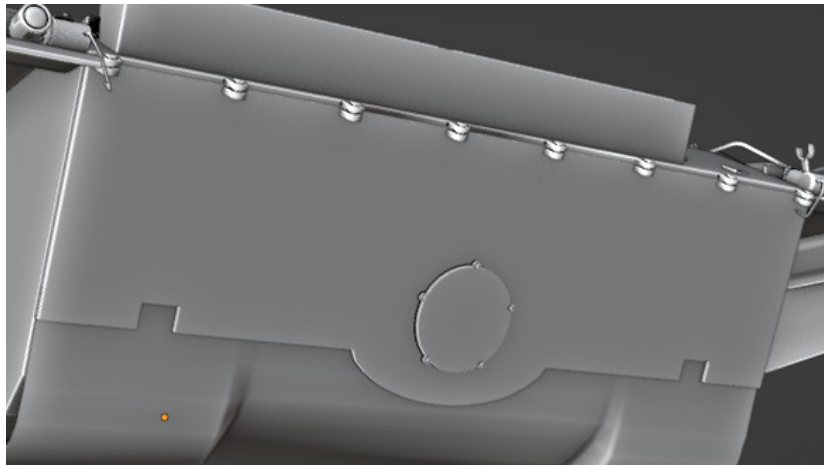

Figure 8.62 – The rear cover
5. Add a plane and reshape it to cover the rear of the tank. It should look something like *Figure 8.62*. Feel free to add some details, such as hatches and bolts.